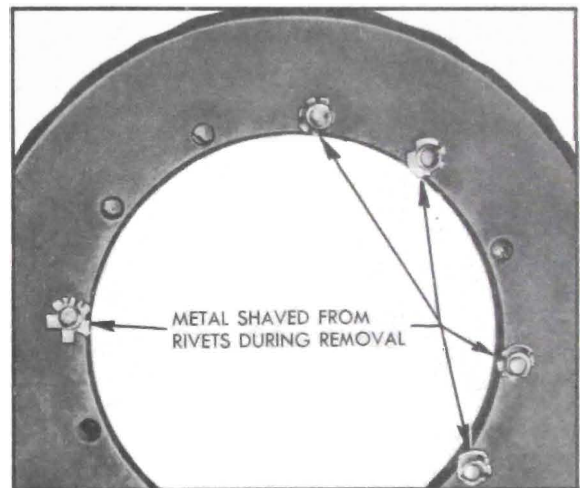

Figure 5-14—Gear Improperly Removed
2. While supporting flange of differential case on suitable block, insert punch in drilled hole and drive each rivet out; rivets will be easily parted when driven out. **NOTE:** When rivets are installed, they expand more in the softer case than in the harder ring gear. If rivets are drilled and driven out from case side, metal is sheared from surface of rivets by sharp edge of holes in gear. See figure 5-14. This not only makes removal more difficult but will distort the case flange so that a new gear installed on case will not run true.